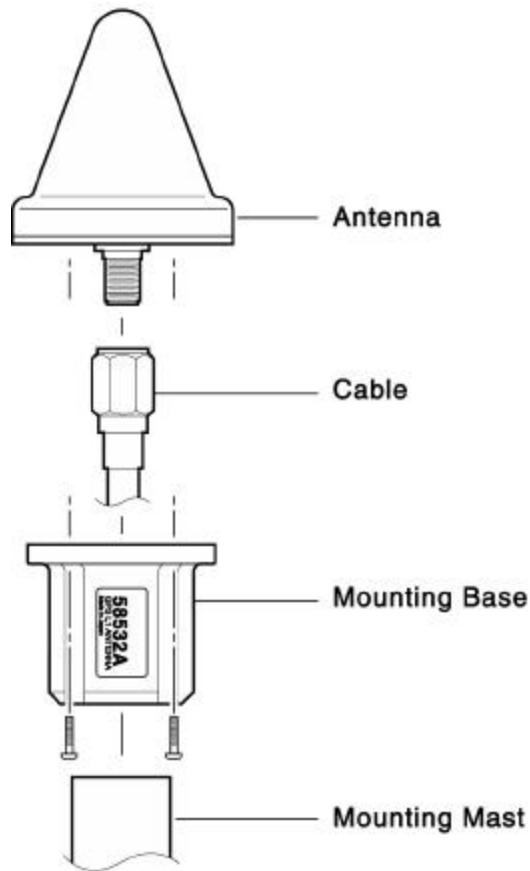

Figure 2. Antenna Assembly Drawing
5.0 Assembly Procedure (Refer to Figure 2 while following this procedure.)